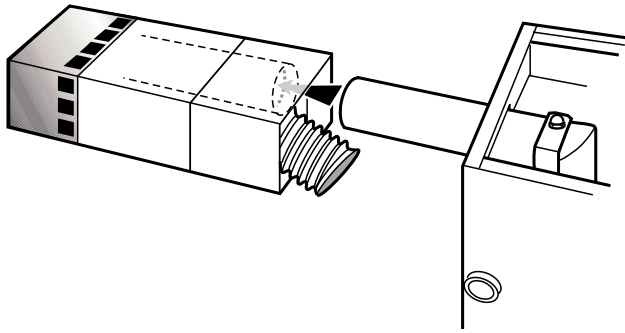

Fig. 22
- 8 Extend the telescopic flue assembly to the approximate required length. Offer the flue assembly up to the flue elbow ensuring that the assembly is in line with the elbow and engage the flue pipe over the elbow. See Fig. 22.